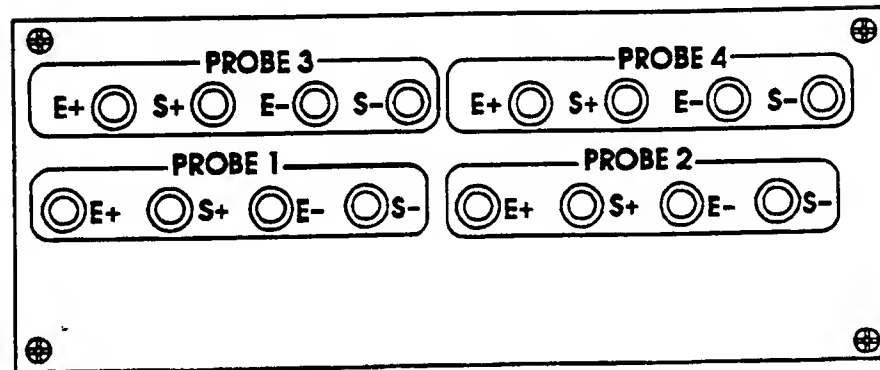
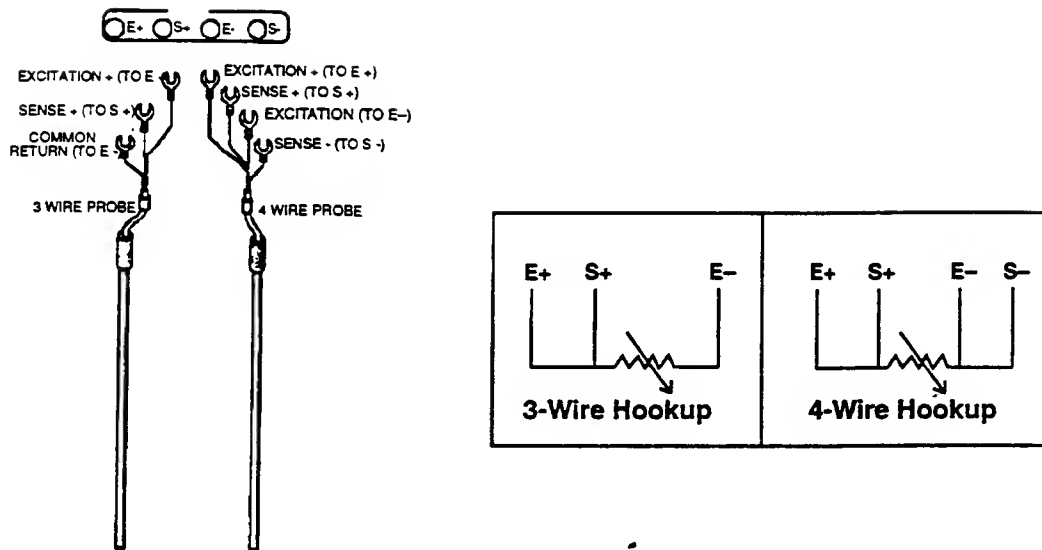

Figure 4.3 The Probe Connection Terminals
Figure 4.4 3- and 4-wire probes.
4. Refer to the documentation of your RTD probes and find the information identifying the probe leads. Match these to the binding posts on the back of the unit, as shown in Figure 4.3. If your probe is a 3 wire probe, do not connect a lead to the "S-" post. See Figure 4.4 for an idea of what probes look like.